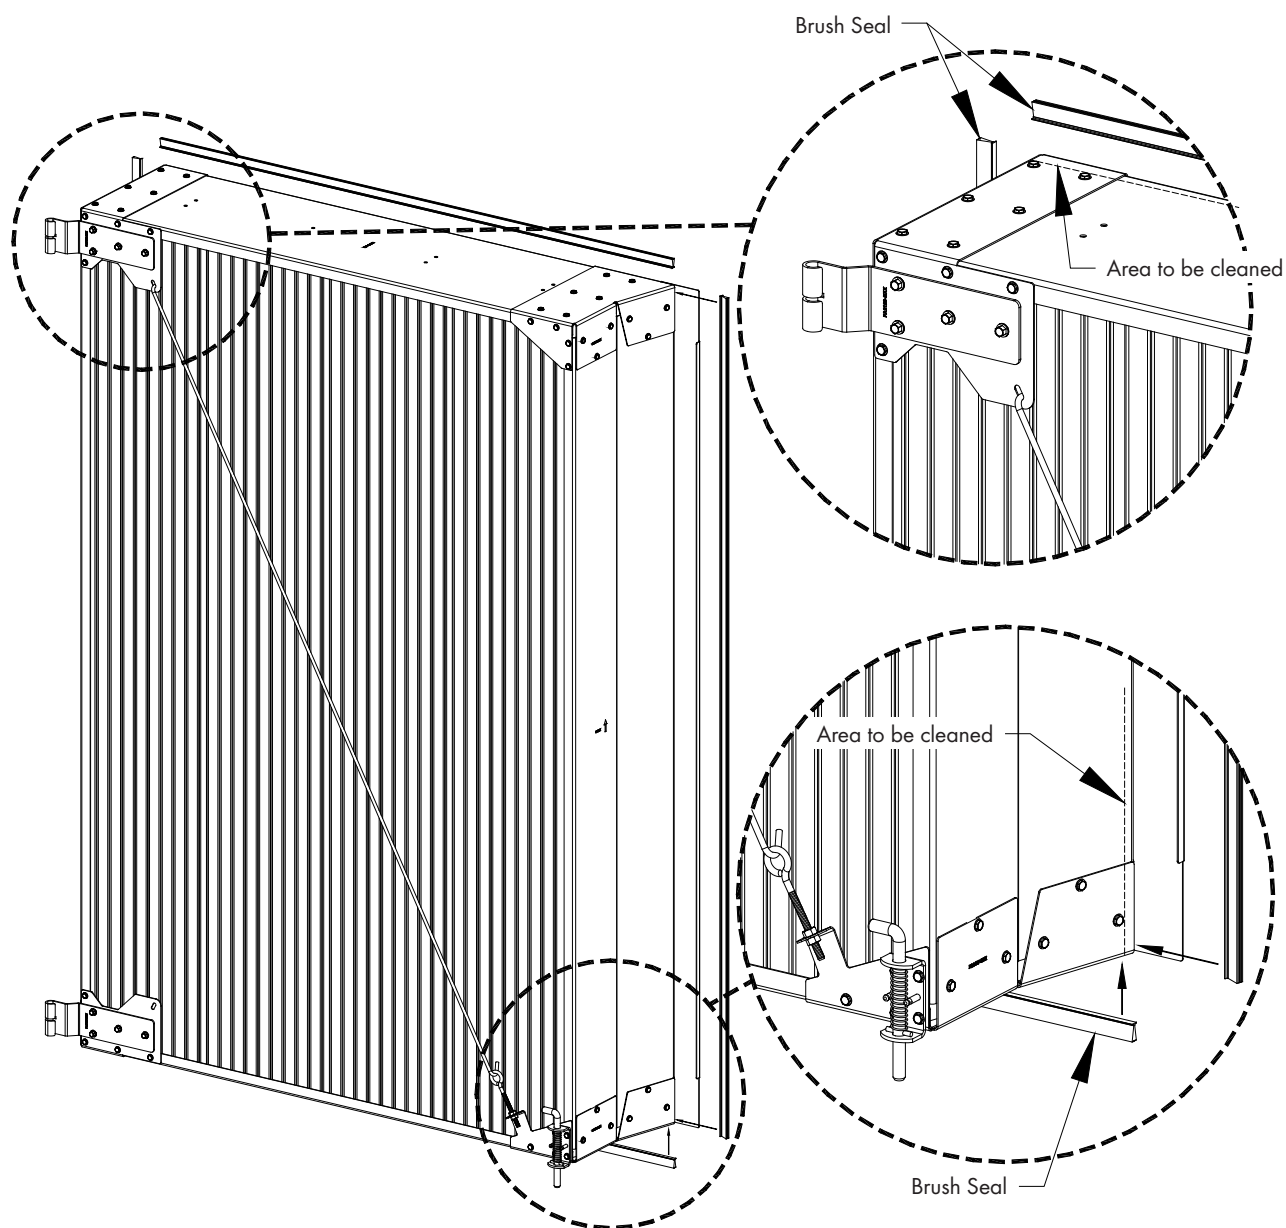

Figure 14
Clean a 1" strip of the galvanized panels and corner brackets on all 4 sides, along the edge of the door opposite the Leaf Hinge and Spring Latch. Cut the roll of Brush Seal into 4 pieces, (2) at 50"L. and (2) at 72½"L., then peel the backing off of the Brush Seal and carefully stick them to the 4 sides of the door where they were cleaned. *See Figure 14.*